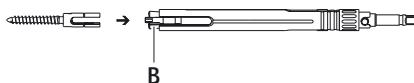

Fig. 4
- Insert the working ends of the pedicle screws into tension sleeve **B**, see Fig. 4.